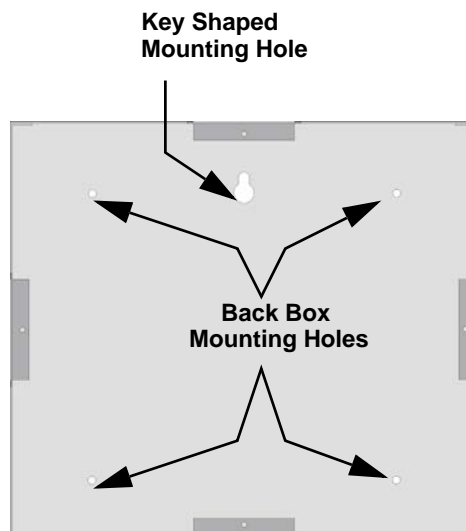

Figure 4.20 Back Box Surface Mount Holes
2. To properly mount the back box, insert a single screw into the key shaped mounting hole. Do not tighten all the way. See Figure 4.20.